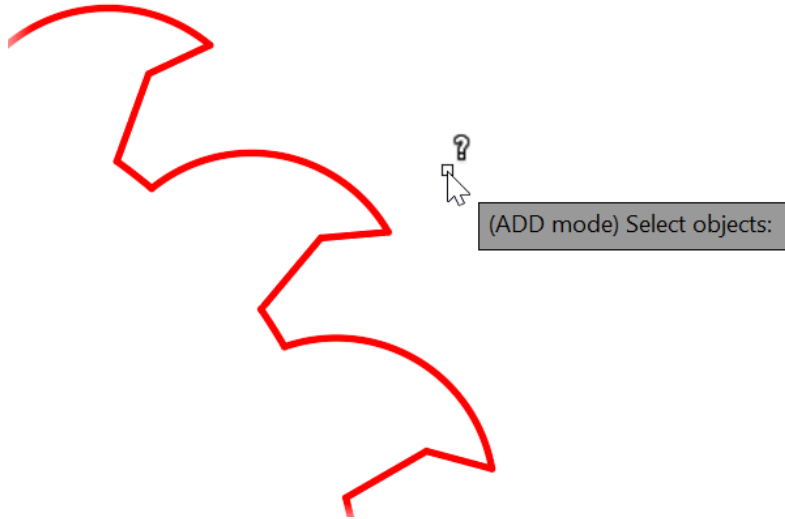

Figure 6.6: (ADD mode) Select objects, ready to select the saw teeth
4. Right-click and select **Add area** on the shortcut menu. You will get the same corner point prompt. Simply ignore it and right-click again. Select **Object** on the shortcut menu. You will now see the **(ADD mode) Select objects:** prompt, as shown in *Figure 6.6*.